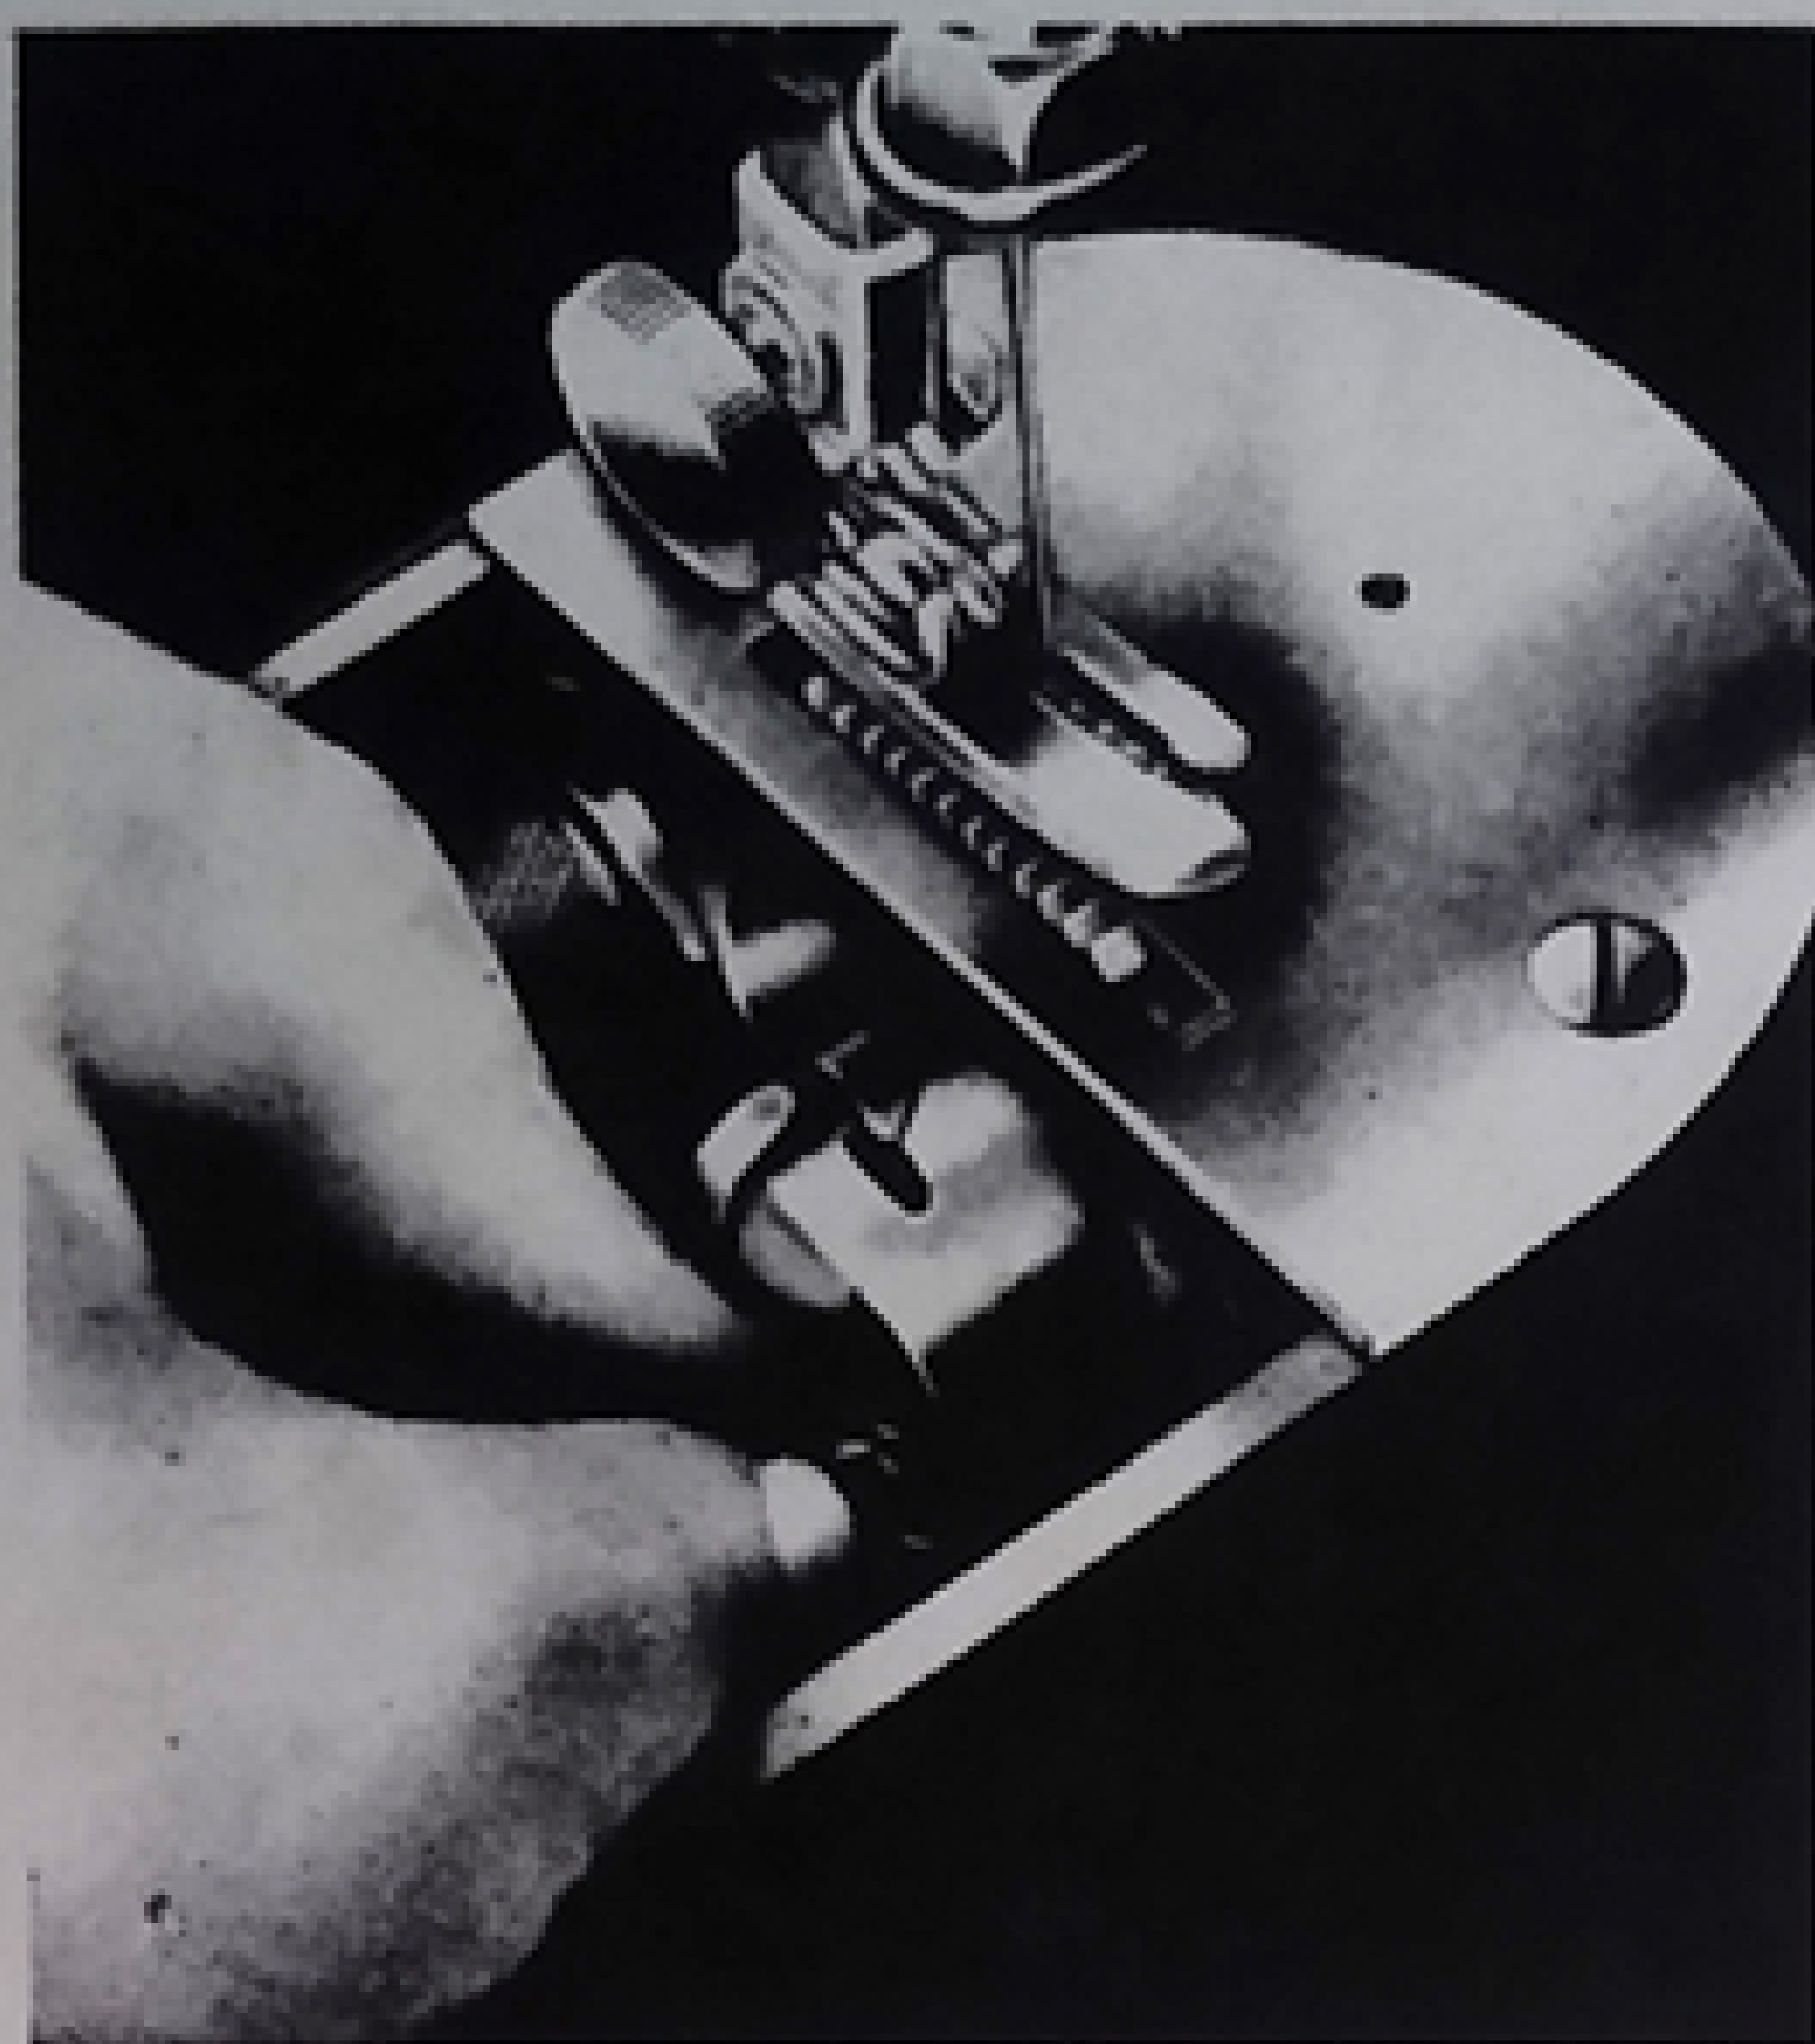

Fig. 8
Now that you threaded the bobbin case, you are ready to replace it in the machine. Hold the bobbin case by the latch between your thumb and forefinger of the left hand. Replace it on the center pin of the bobbin case holder, as shown in Fig. 8.
2. Slide out the slide plate (11) and, holding the threaded bobbin case in your left hand, place it on the center stud to the bobbin case holder and press it from left to right until it snaps into position, as shown in Fig. 8 on Page 9.